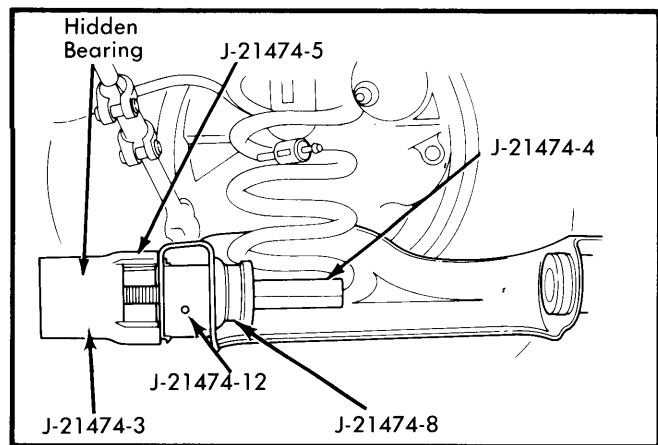

Fig. 5 Removing Lower Control Arm Bushing
4) Install spacer tool (J-21474-12) as shown in Fig. 5. Install remaining tools as shown in Fig. 5, and turn hex bolt and nut until bushing is removed. Remove tools and discard bushing.
Rear Bushing Installation — Position new bushing and install correct tools as shown in Fig. 5. Using spacer, turn hex bolt and nut until new bushing is seated. Reverse removal procedure to complete assembly.
Front Bushing Removal — With lower control arm removed, remove bushing flare by tapping on edge with hammer. Install tools as shown in Fig. 5. Turn down on hex nut until bushing is removed.